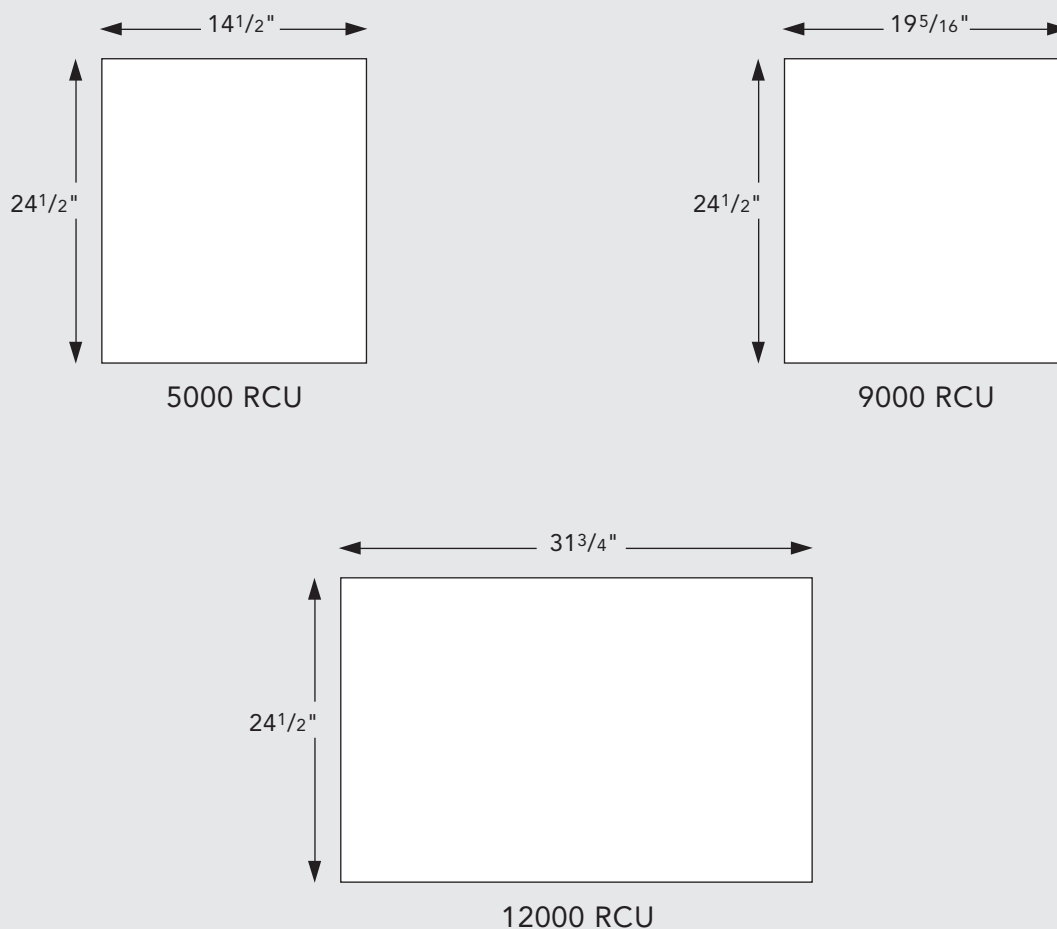

Fig. 1
- Since WHISPA III® RCU fan convectors are supplied with fan speed control, it is important to size the unit to match the calculated heat loss requirements of the room with the unit operating at the low fan speed (I).
- The size of the opening required to be cut for installation is shown in Fig 1.
- Prepare the opening in the wall to accept the unit as shown in Fig. 1. Depending on the wall framing layout, the 9,000 and 12,000 models may require re-framing of the opening to ensure proper support.